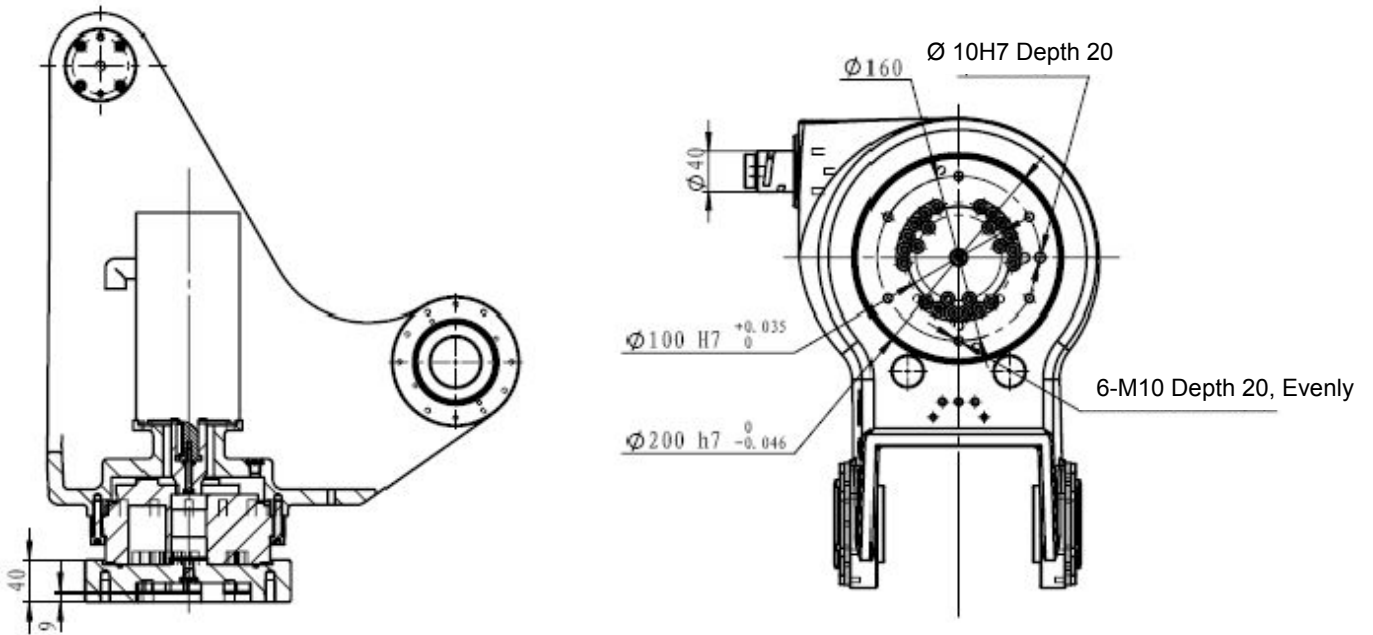

Figure 3-3 SP200/SP275 tool flange installation dimensions
2. SP200/SP275 tool flange installation dimensions are shown in fig.3-3.